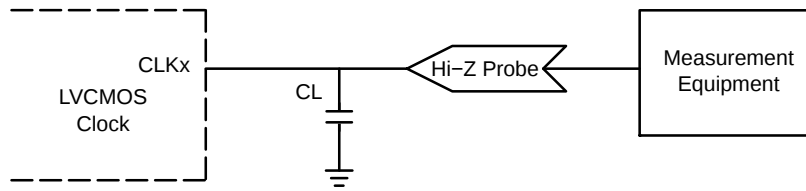

Figure 7. LVC MOS Parameter Measurement
5. Measurement taken with single ended clock outputs terminated with test load capacitance of 5 pF and 15 pF and differential clock terminated with test load of 2 pF. See Figures 7, 8 and 11.